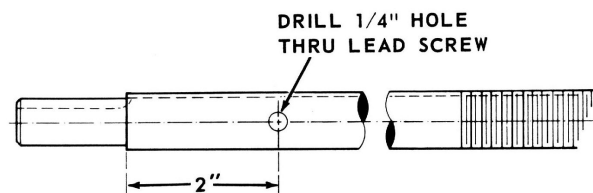

Figure 3
5. Drill 1/4" hole thru lead screw as shown in figure 3.